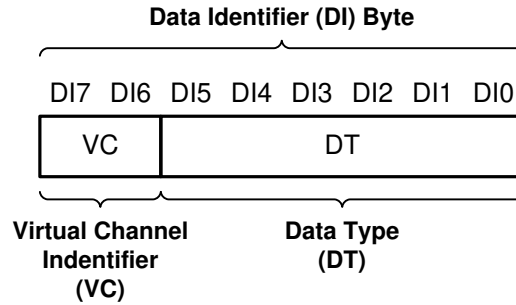

図 5-9. CSI-2 Data Identifier Structure
The DS90UB964-Q1 MIPI CSI-2 protocol interface transmits the data identifier byte containing the values for the virtual channel ID (VC) and data type (DT) for the application specific payload data, as shown in 図 5-9. The virtual channel ID is contained in the 2 MSBs of the data identifier byte and identify the data as directed to one of four virtual channels. The value of the data type is contained in the 6 LSBs of the data identifier byte. The received RAW mode data is converted to CSI-2 Tx packets with assigned data type and virtual channel ID.